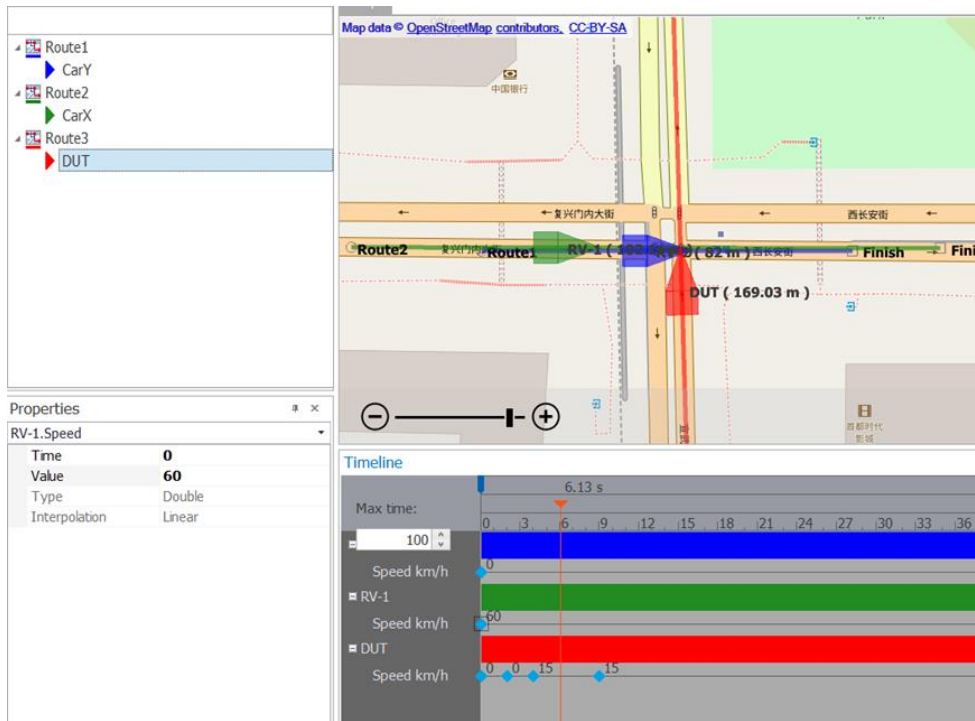

Figure 18: Edit RV-1 parameter
- In order to simulate driving vehicles edit CarY(RV-1) to the right in the left area, the initial position is the starting point of Route2. In the Timeline window, the initial Speed of the vehicle is set 60km/h. Slide the timeline cursor to see the relative position of each vehicle (Figure 18).